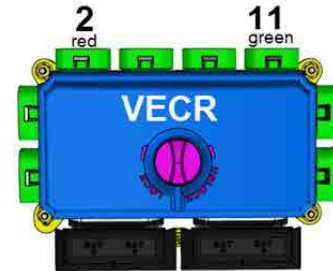

FIGURE 10 : VECR
1. Inside rear electrical compartment (rear junction box), locate VECR module (FIGURE 10).